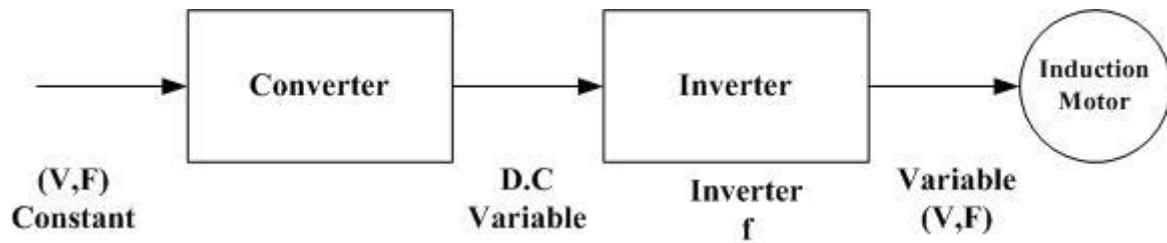

Fig. 2 Block diagram of V/f control drive
where, K_1 = stator winding constant, T_{Ph1} =stator turns per phase, V = supply voltage, f = Supply frequency. It may be seen that from the eqn. (3) that if the supply frequency (f) is changed, the value of air gap flux also gets affected. Induction motors are normally designed to operate near the saturation point on their magnetization curves, So the increase in flux due to a decrease in frequency will cause excessive magnetization currents to flow in the motor. Hence, it is necessary to maintain air gap flux constant when supply frequency is changed. This can be achieved when the V/f remains constant. That means when frequency varies then voltage must be varied in same proportion so that net ratio remains same or constant. This can be achieved V/f control drive as shown in Fig. 2. In this arrangement, variable (V, f) supply can be obtained from constant (V, f) supply using converter-inverter arrangement as shown in Fig. 2. When supply frequency to the stator terminal varies, the supply voltage to the stator also varies automatically in same proportion. As a result of which V/f ratio remains constant.